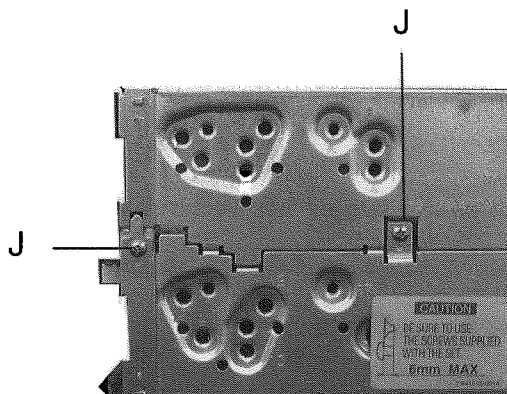

Fig 9
3. Remove the two screws **J** (which fasten the CD player and the Cassette player) from right side of mainbody. (See Fig 9)